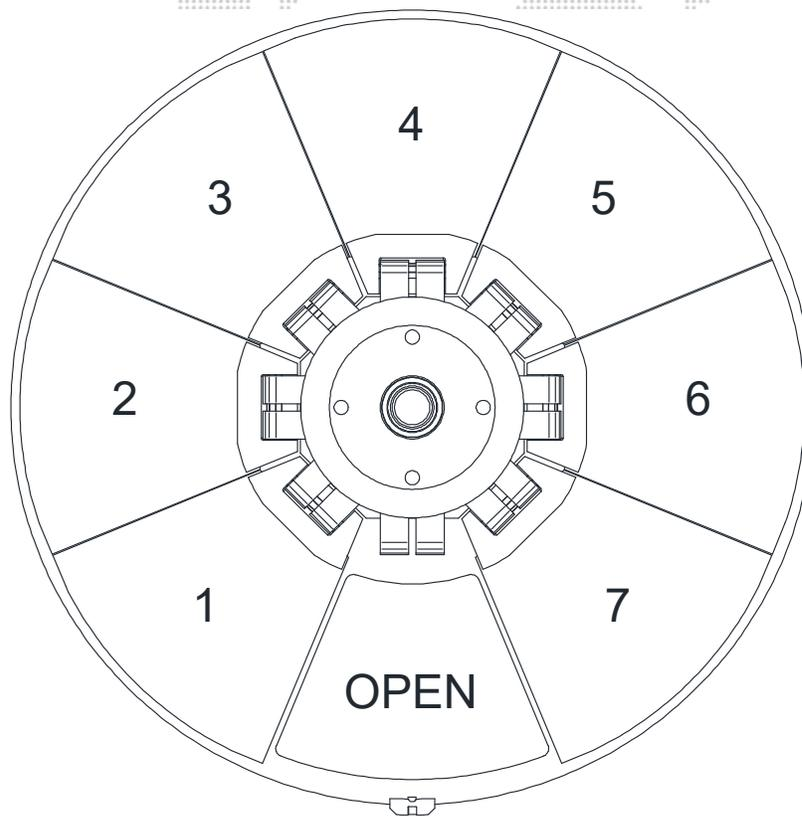

Figure 3-17: Designer Color Wheel Positions
- Step 5. Noting proper orientation of carrier, insert new designer color filter into position and push until carrier clicks into place. Refer to **Figure 3-17** for wheel positions.